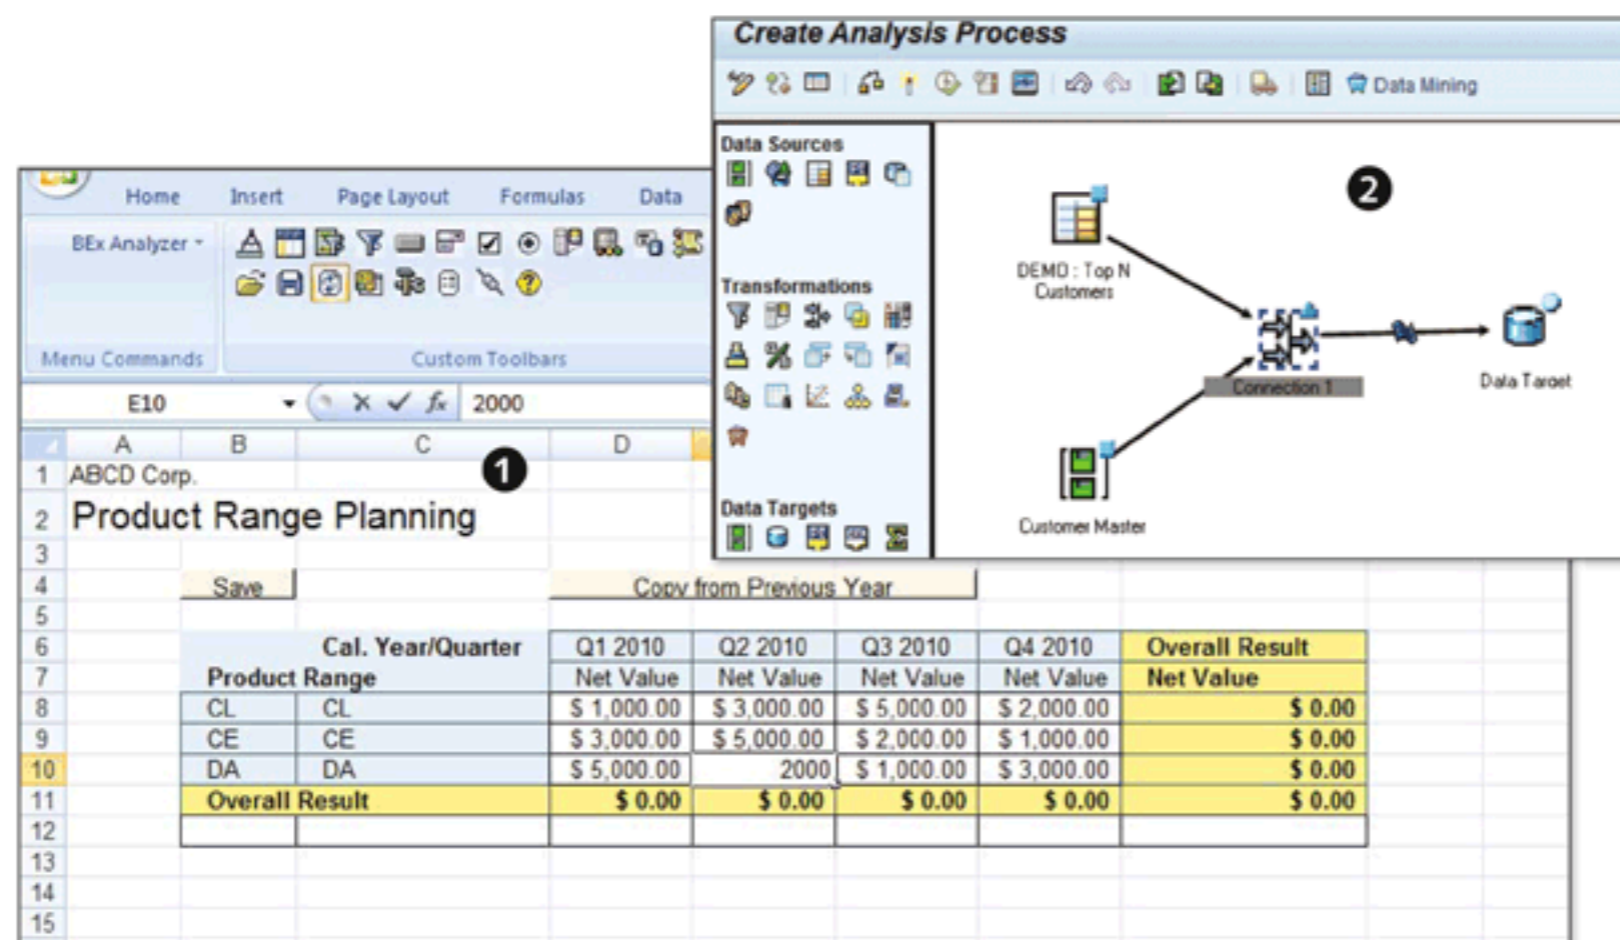

Figure 2.5 Planning and Advanced Analytics in SAP NetWeaver BW
This component allows you to create planning applications (❶ of Figure 2.5) that are integrated with reporting and analysis functions. The detail modeling and planning methods are designed to be multidimensional, so they are also very flexible. This topic is discussed in more detail in Chapter 12.
This component allows you to perform advanced analysis (❷ of Figure 2.5), such as data mining.